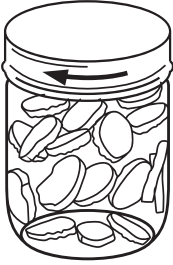

Figure 3.
4. Install a clean lid on top of the jar and then add a screw band to tighten in place. (Figure 3.)